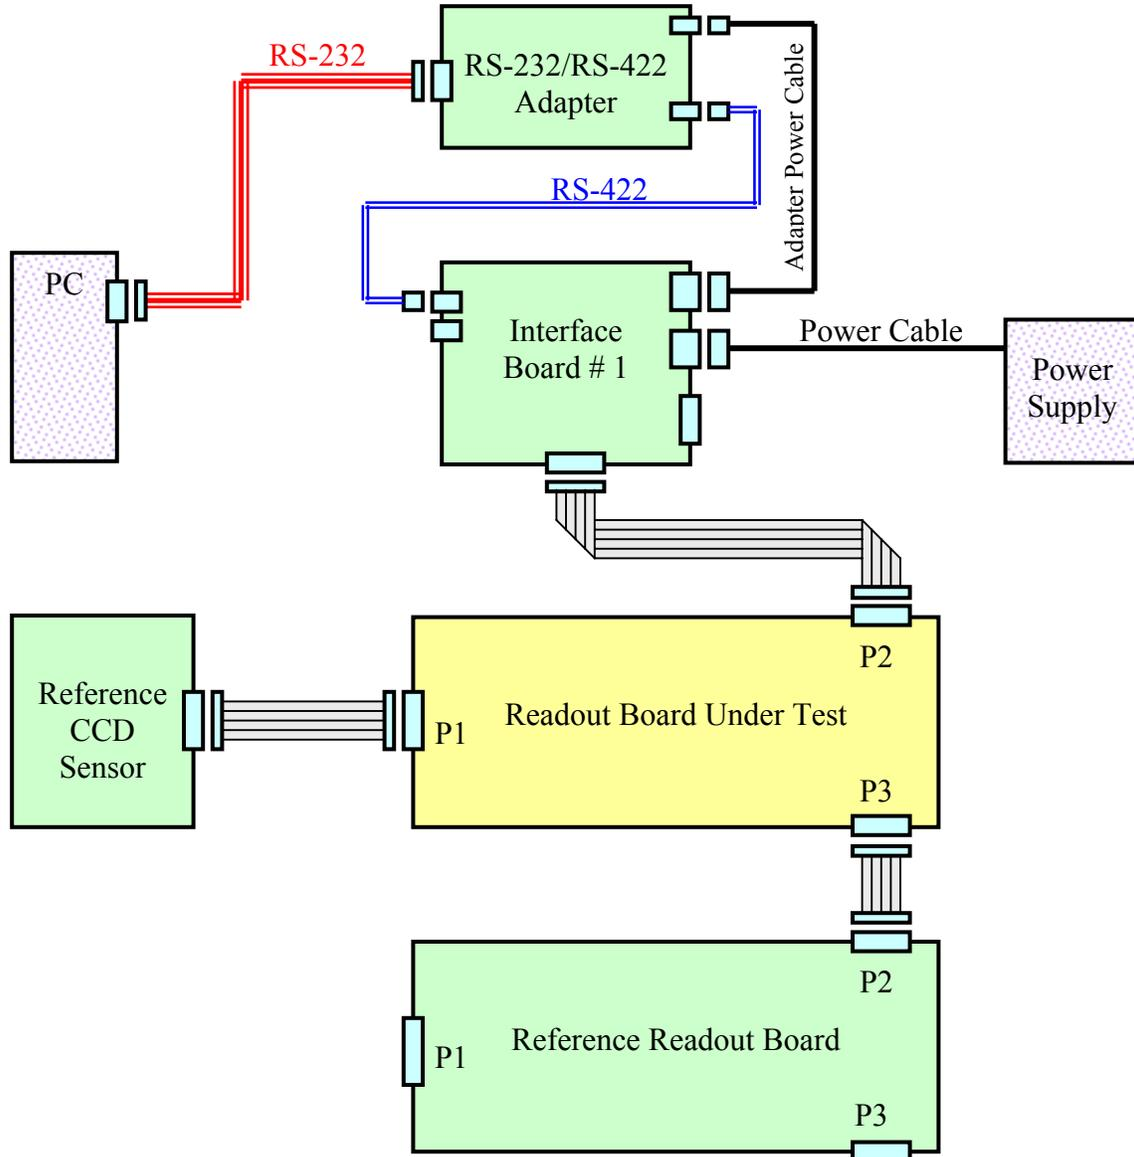

Fig. 11. Diagram of connections
5. Connect the readout board under test to the interface board as shown in Fig. 11 and switch on power. Check +3.3V output voltage of the corresponding DC-DC converter. A test point marked as "3.3V" is arranged in area of the DC-DC converter.